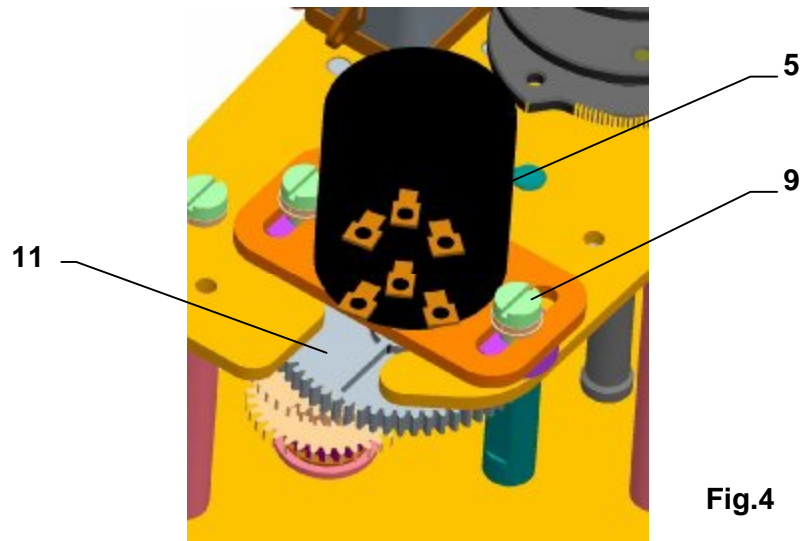

Fig.4
- in the version with a resistant transmitter (Fig.4) disengage the transmitter;
- loosen the nut (22) with simultaneous holding the central milled nut (23) and then loosen the nut (23) fixing the cams still having the belleville springs which create axial thrust;
- reset the EA to the "Open" position and rotate the cam (29) clockwise (when viewing the actuating plate from above) until switch S3 switches over (25);
- reset the EA by the angle where the "Open" position is to be indicated and turn the cam (31) clock-wise until switch S3 switches over (27);
- reset the EA to the "Closed" position and turn the cam (28) counter clockwise until switch S4 switches over (24);
- reset the EA back by the angle where the "Closed" position is to be indicated and turn the cam (30) counter clockwise until switch S6 switches over (26);
- once the EA is adjusted manually tighten the central milled nut (23) to lock the cams and tighten the lock nut (22) while simultaneous holding the milled nut;
- swing the position indicator discs (31) for the given operating stroke against the gauge mark on the top cover sight;
4.3 Adjustment of resistant transmitter (Fig.4)